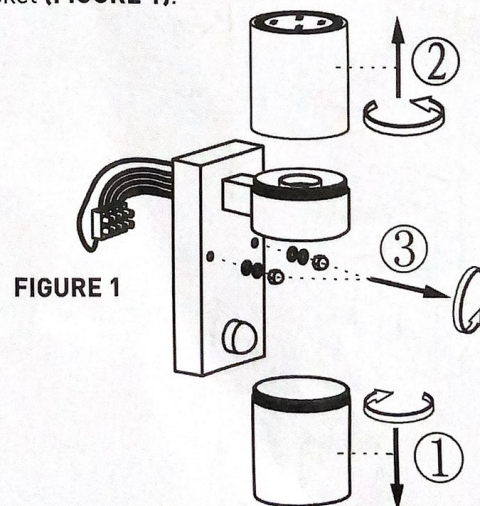

FIGURE 1
1. Remove the back plate by unscrewing dome nuts on front of the wall light, taking care not to damage the weather proof gasket (**FIGURE 1**).